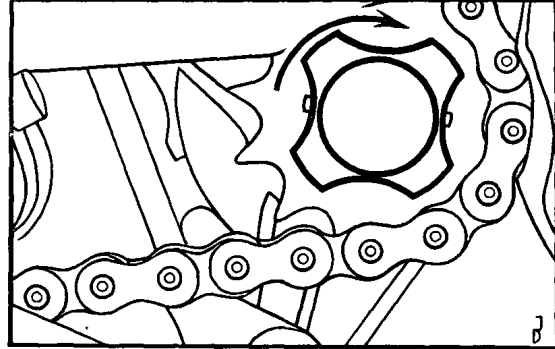

Fig. 7. Disengaging the engine
- Disengaging the engine (fig. 7)
If you want to use the moped as the cycle (e.g. when consumption of fuel) depress the disengaging device of engine – the star-like nut in the direction in the engine and rotate to the right (fig.7). the nut remains fitted into this position and the engine remains disconnected. The engine is engaged again when you depress again the star-like nut in the direction into the engine and rotate it to the left.